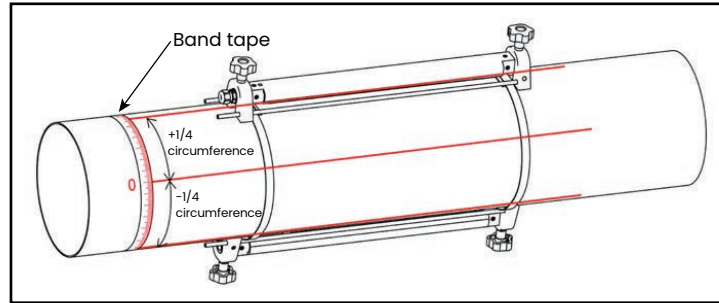

Figure 19: One traverse installation with two fixtures
3. Install two mounting straps on the pipe about 12 in. (30 cm) apart (see figure 19 below).